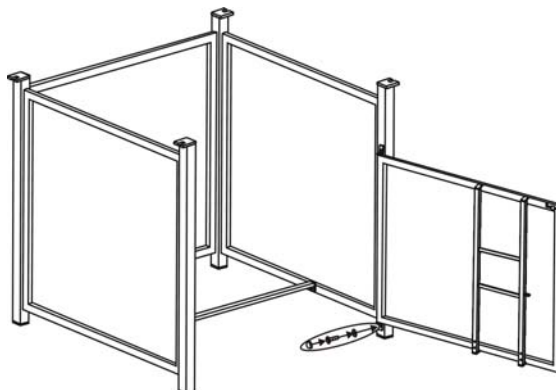

Figure 4
4. Attach the "L" connector to right side panel by using a 1/4"x15 mm bolt and washer as shown in Figure 4. Guide the bolt through the hole in the "L" connector, into the pre-drilled hole in the right side panel. **Do not over tighten.**